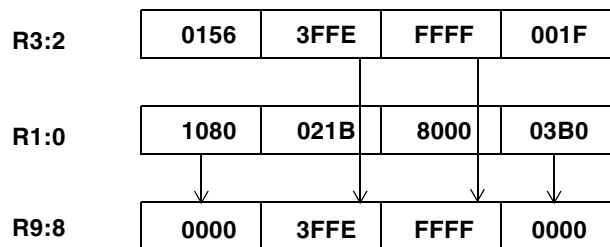

Figure 8-4. Example in Quad Short
SR9:8 = MAX (R3:2, R1:0) (Z);; see *Figure 8-4*